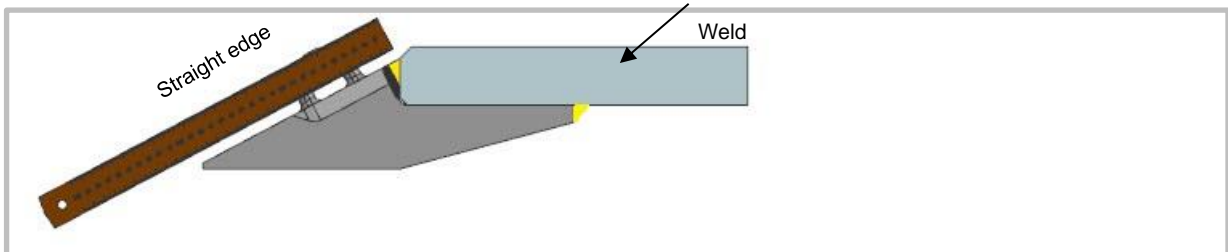

Figure 14 Checking the weld size to avoid over welding
Step 9: Check the amount of bevel weld using a ruler or a straight edge as shown in Figure 14 to ensure the weld size has reached as specified in the lip layout drawing and WPS: SS-011.